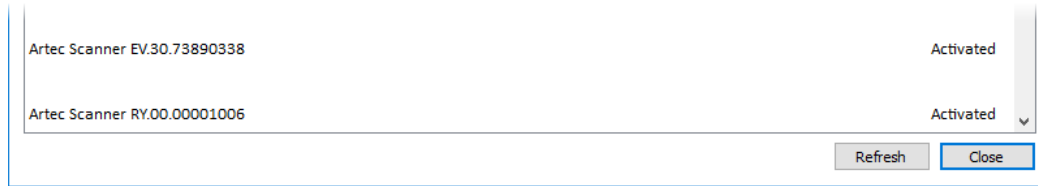

Figure 21: 3D scanner activated
3. Go to Artec Installation Center, click *Refresh* and wait for the new 3D scanner to appear in the hardware box. Click *Activate* (to the right of the serial number) to enable your 3D scanner. The status of the device should change to *Activated*, as Figure 21 shows.